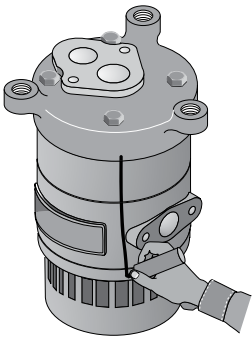

Figure 17
- Step 5. Draw a line down the side of the pump with a marker to help alignment during reassembly. Mark the pump from the motor to the base volute (see Figure 17).